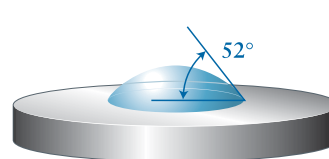

Figure 1
- Improves surface wettability³ (Figures 1 & 2)